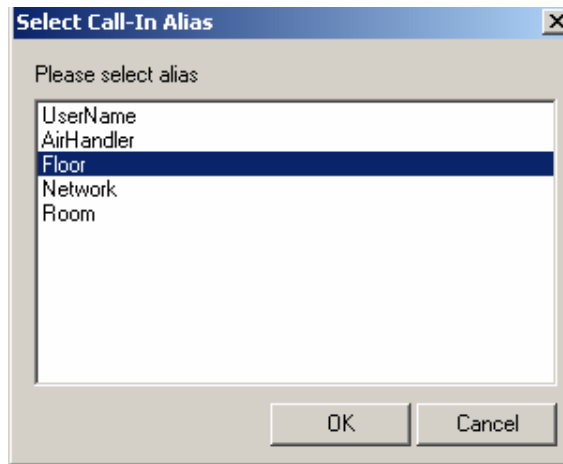

Figure 9.33. Selecting an Alias
- This opens the **Select Call-in Alias** dialog box, as shown in Figure 9.33. Select the desired alias, and then click the **OK** button. The selected alias appears in the configuration field you selected.